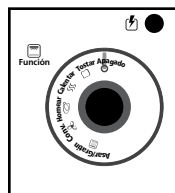

Figure 1
2. **Function Selector Knob** – Select cooking function by turning knob to desired setting. (See Figure 1)